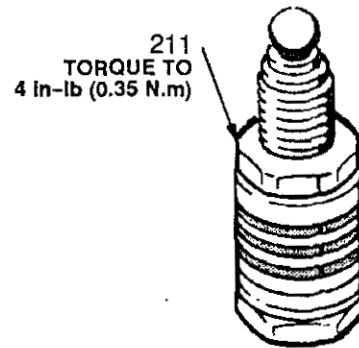

Fig 17-2
1. Check the outside of the piston rod (224) and the inside of the sleeve (218) for wear. If the parts are worn, new packings will not seal properly. Replace these parts if needed.
2. Stack these parts onto the piston valve (222): the backup washer (214), seal (203*), female gland (215*), alternate the three plastic packings (212*) and the two leather packings (206*), and the male gland (210*).
3. Tighten the packing retaining nut (211) onto the piston valve (222) to 4 in-lb (0.35 N.m). See Fig 17-2.
4. Place the ball (225) on the piston valve (222).
5. Apply one drop of adhesive, supplied, to the piston valve threads. Hand tighten the valve assembly into the piston rod just until the nut (211) contacts the rod.